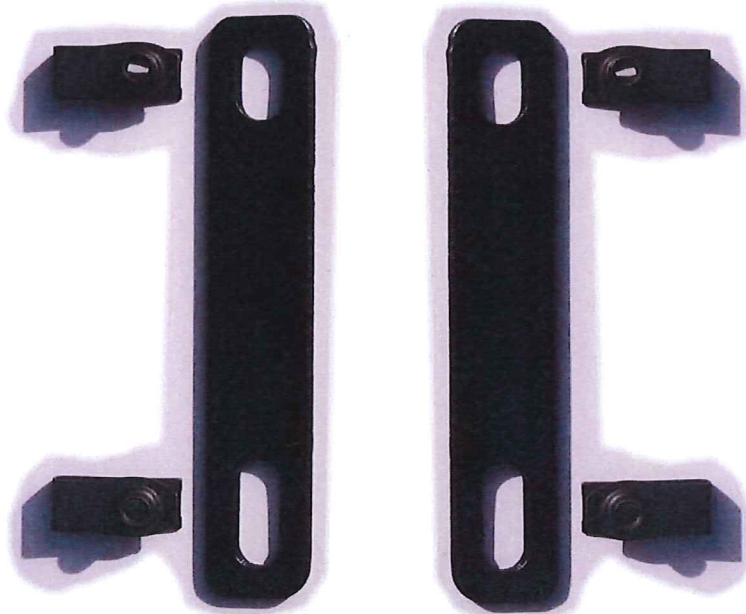

Figure 5
28. Install the supplied U-nuts onto the Heater Support Brackets as shown in Figure 5.